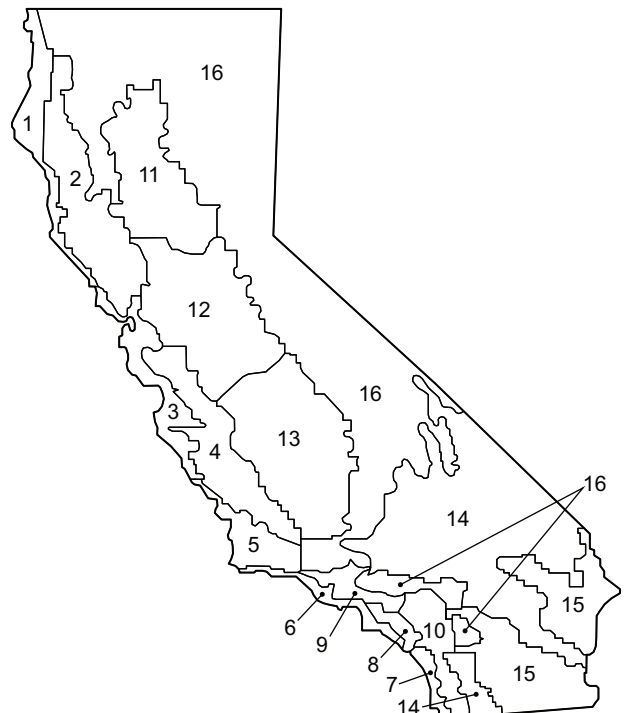

Fig. 76 – California Title 24 Zones
b. See Fig. 76 for map of California Title 24 zones.